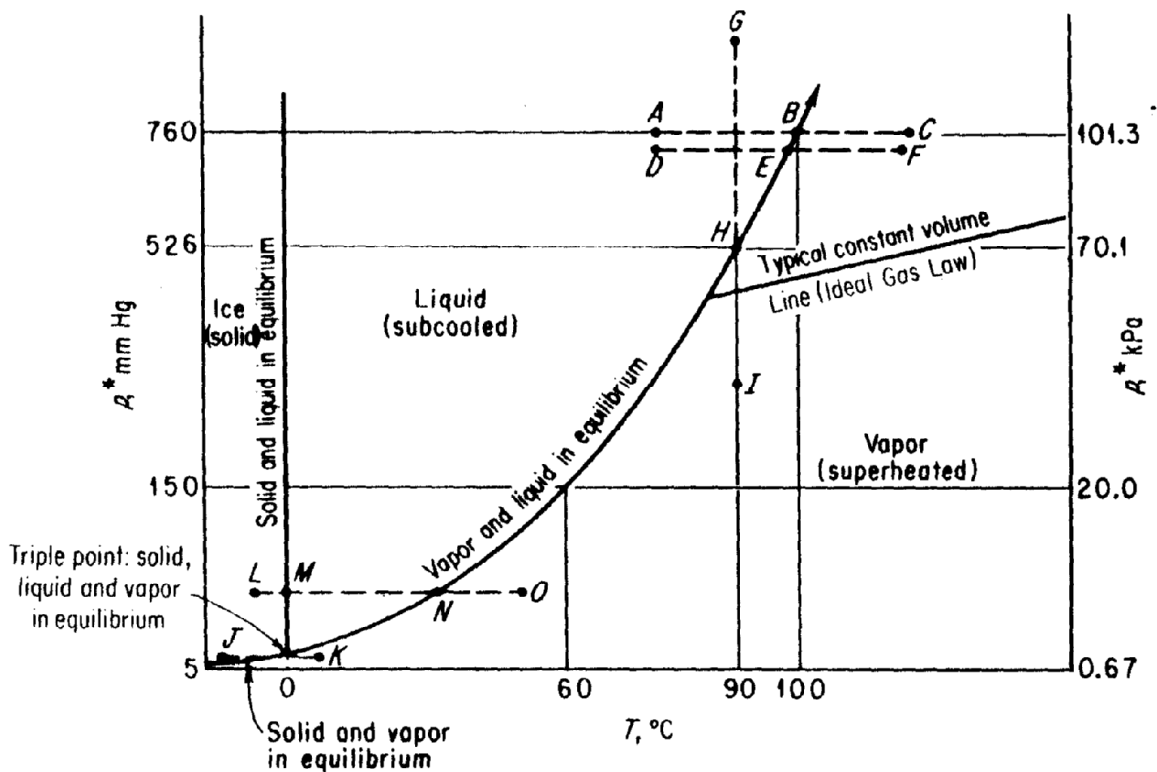

Figure 13.4 Vapor-pressure curve for water.
- ☒ If the vapor and liquid of a pure component are in **equilibrium**, then the **equilibrium pressure is called the vapor pressure** (see Figure 13.4).
- ❖ When the solid passes directly into the vapor phase without first melting to become a liquid (line J-K as opposed to line L-M-N-O in Figure 13.4) it is said to sublime.
You can see from Figure 13.4 that the function of p^* versus T is not a linear Function (except as an approximation over a very small temperature range).
Bubble point: The temperature at which a liquid just **starts to vaporize** (See Figure 13.4).
Dew Point: The temperature, at which the vapor just begins to condense at specified pressure, namely temperature values along the vapor pressure curve (See Figure 13.4).